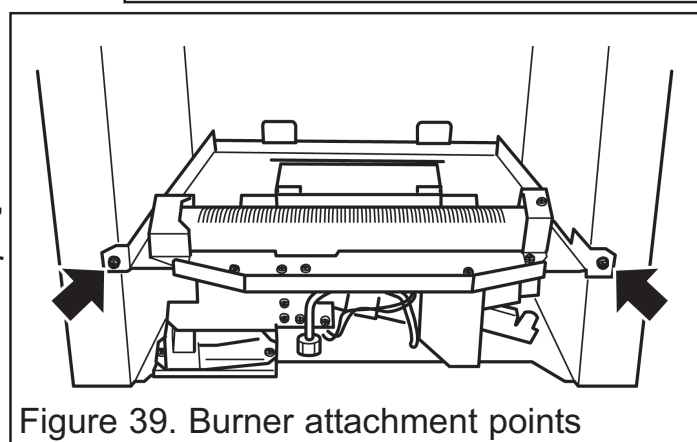

Figure 39. Burner attachment points
4. Detach the burner unit from the convection box by removing two screws (See figure 39).